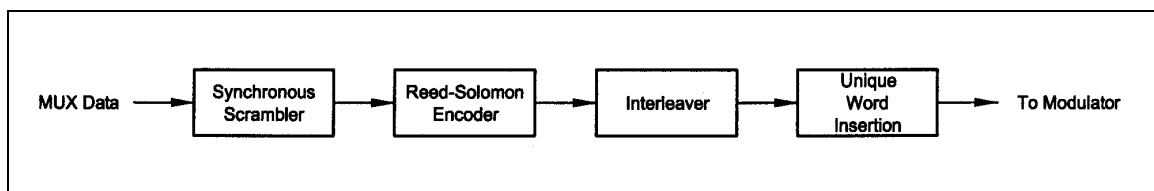

Figure 3-14. Reed-Solomon Encoder Functional Block Diagram
3.18 Reed-Solomon Codec (Refer to Figures 3-14, 3-15, and Table 3-1)